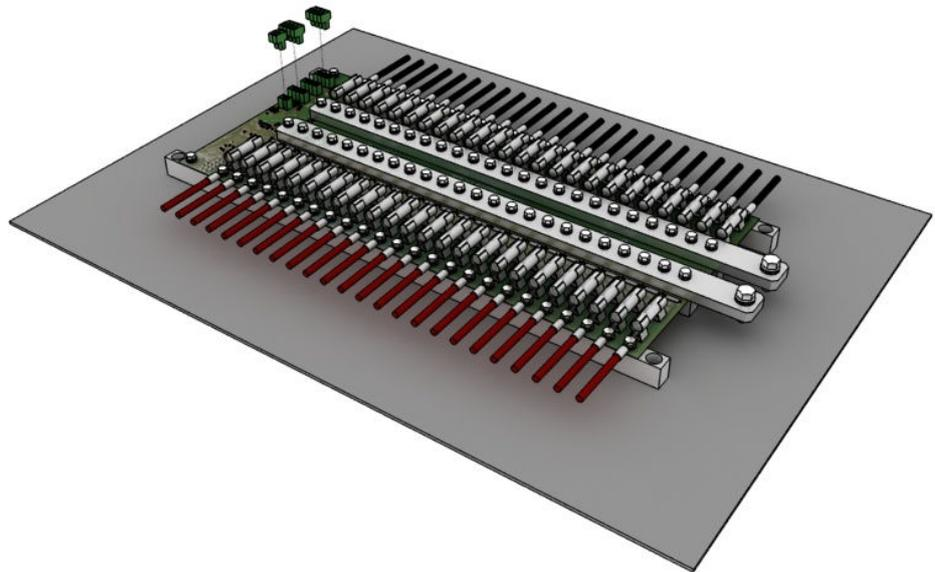

Figure 6: Place the connectors for bus and indicator
3. Fixing the cable terminal rings with bolts M5 on mounting bar with torque of 3-4 Nm (figure 6).